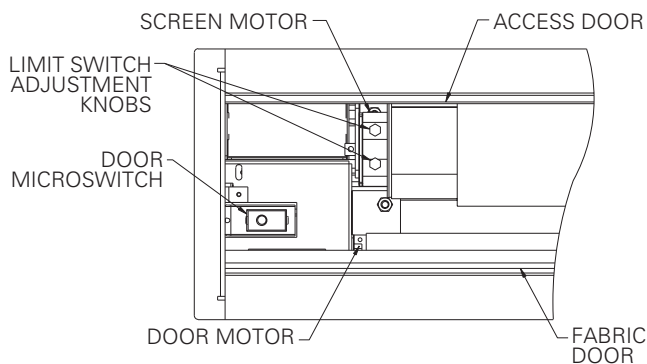

FIGURE 2
6. Carefully remove tape strips securing picture surface around roller. Slat should move freely (Fig. 2). (Only if the roller assembly is preinstalled.)